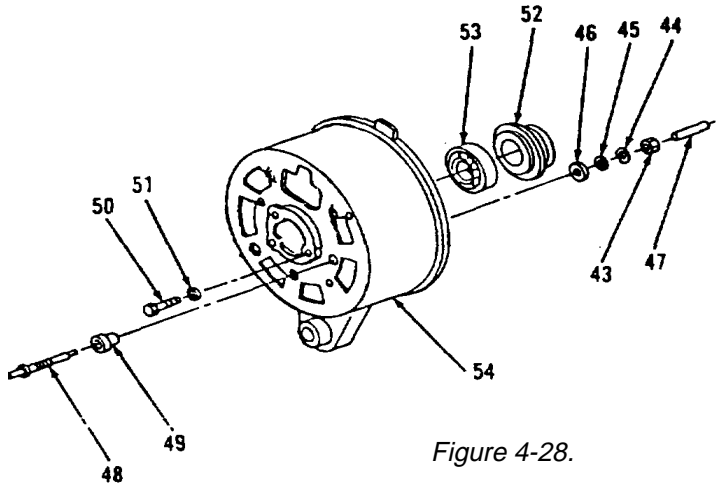

Figure 4-28.
- 1. Install bearing (53) in frame (54, Figure 4-28). Apply bearing grease, if necessary.
- 2. Position ring (52) over bearing (53).
- 3. Install three lockwashers (51) and screws (50).
- 4. Install bushing (49), pin terminal (48), insulators (47 and 46), washer (45), lockwasher (44) and nut (43) in hole of frame (54) marked "R".